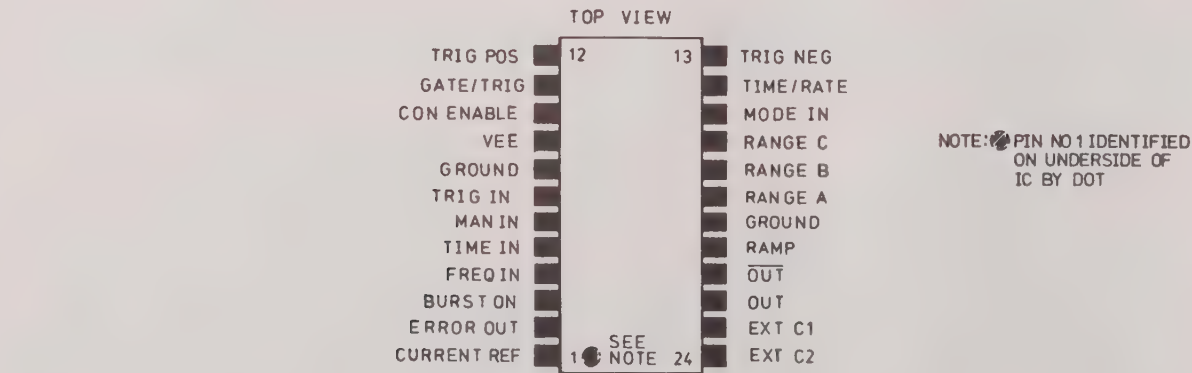

Figure 8–3 TIMING I.C.
8–17 Tables and Figures within each Service Block are given three-digit codes e.g. Figure 8–3–1. The first digit refers to the Manual Section (8), the second digit to the Service Block and the third to the Figure number, e.g. Figure 8–3–1 means Section 8, Service Block 3, Figure 1.